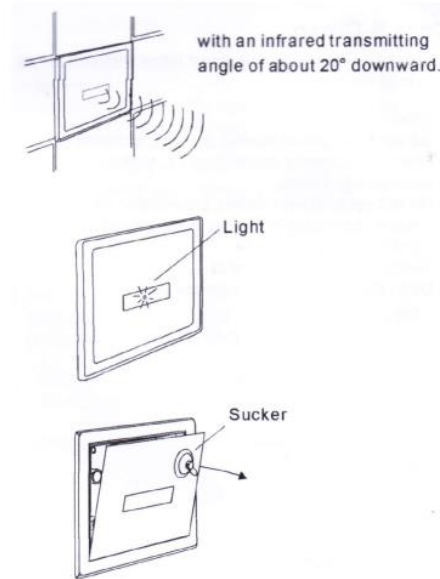

Fig. 1.34: Fixing the panel
5. Screw the fixed panel with 4 long screws and cover the panel. (Refer Fig. 1.34)